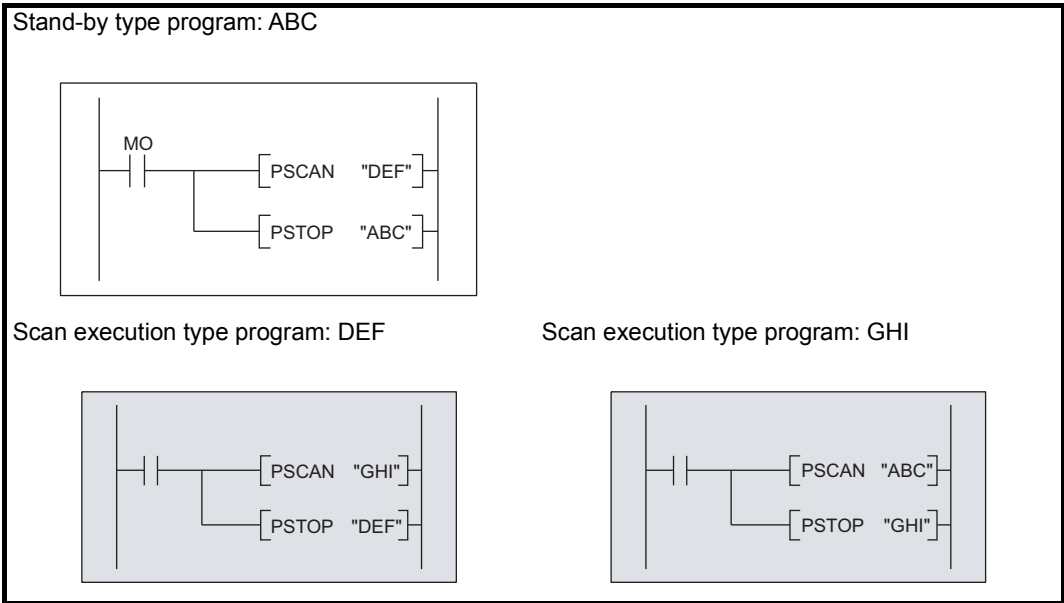

Figure 2.36 Example of changing the execution type (in the case of scan execution type program)
- When the condition is established (the internal relay (M0) in Figure 2.36 turns on), the program "DEF" is changed to a scan execution type program and the program "ABC" to a stand-by type program.